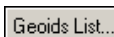

Figure 3-15. Geoids list button
1. Click **Geoids List** (Figure 3-15).